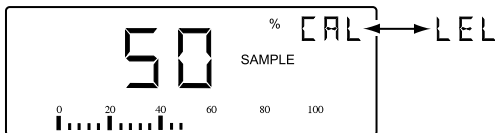

Figure B-8 50% LEL Display
- 9) The calibrated instrument display will now return to CAL mode display as shown in Figure B-8.